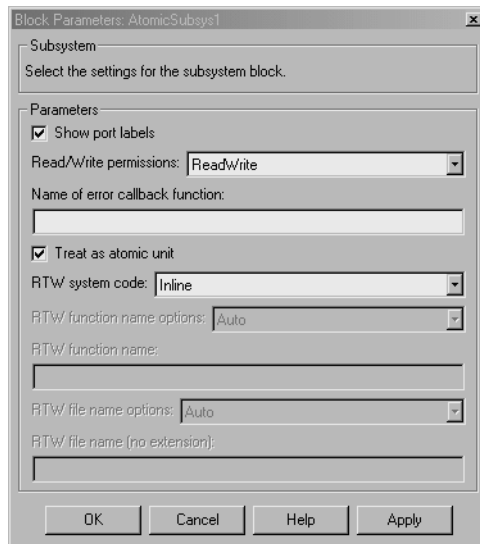

Figure 4-3: Inlined Code Generation for a Nonvirtual Subsystem
- 1 Select the subsystem block. Then select **Subsystem parameters** from the Simulink **Edit** menu. The **Block Parameters** dialog opens, as shown in Figure 4-3.
- 2 If the subsystem is virtual, select **Treat as atomic unit** as shown in Figure 4-3. This makes the subsystem atomic, and the **RTW system code** pop-up menu becomes enabled.
- 3 Select **Inline** from the **RTW system code** menu as shown in Figure 4-3.